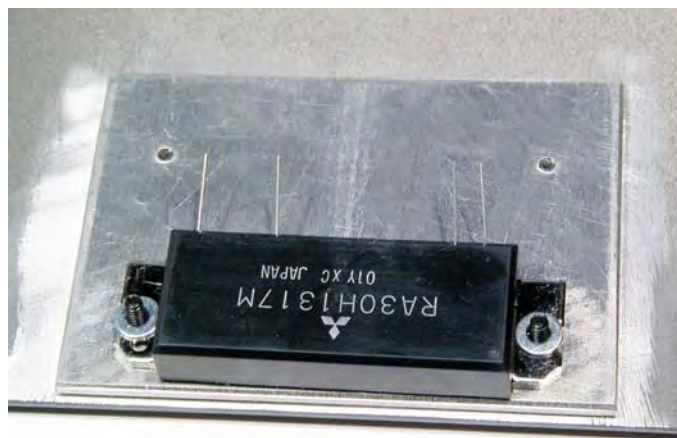

Figure 35. RF Power Module and Flat Washers in Place on the Heat Spreader.
- Position the RF power module on the two screws as shown in Figure 35. Be sure the thermal conduction pad on the heat spreader is resting directly against the bottom of the RF power module.
- Place a flat washer on each screw as shown in Figure 35.